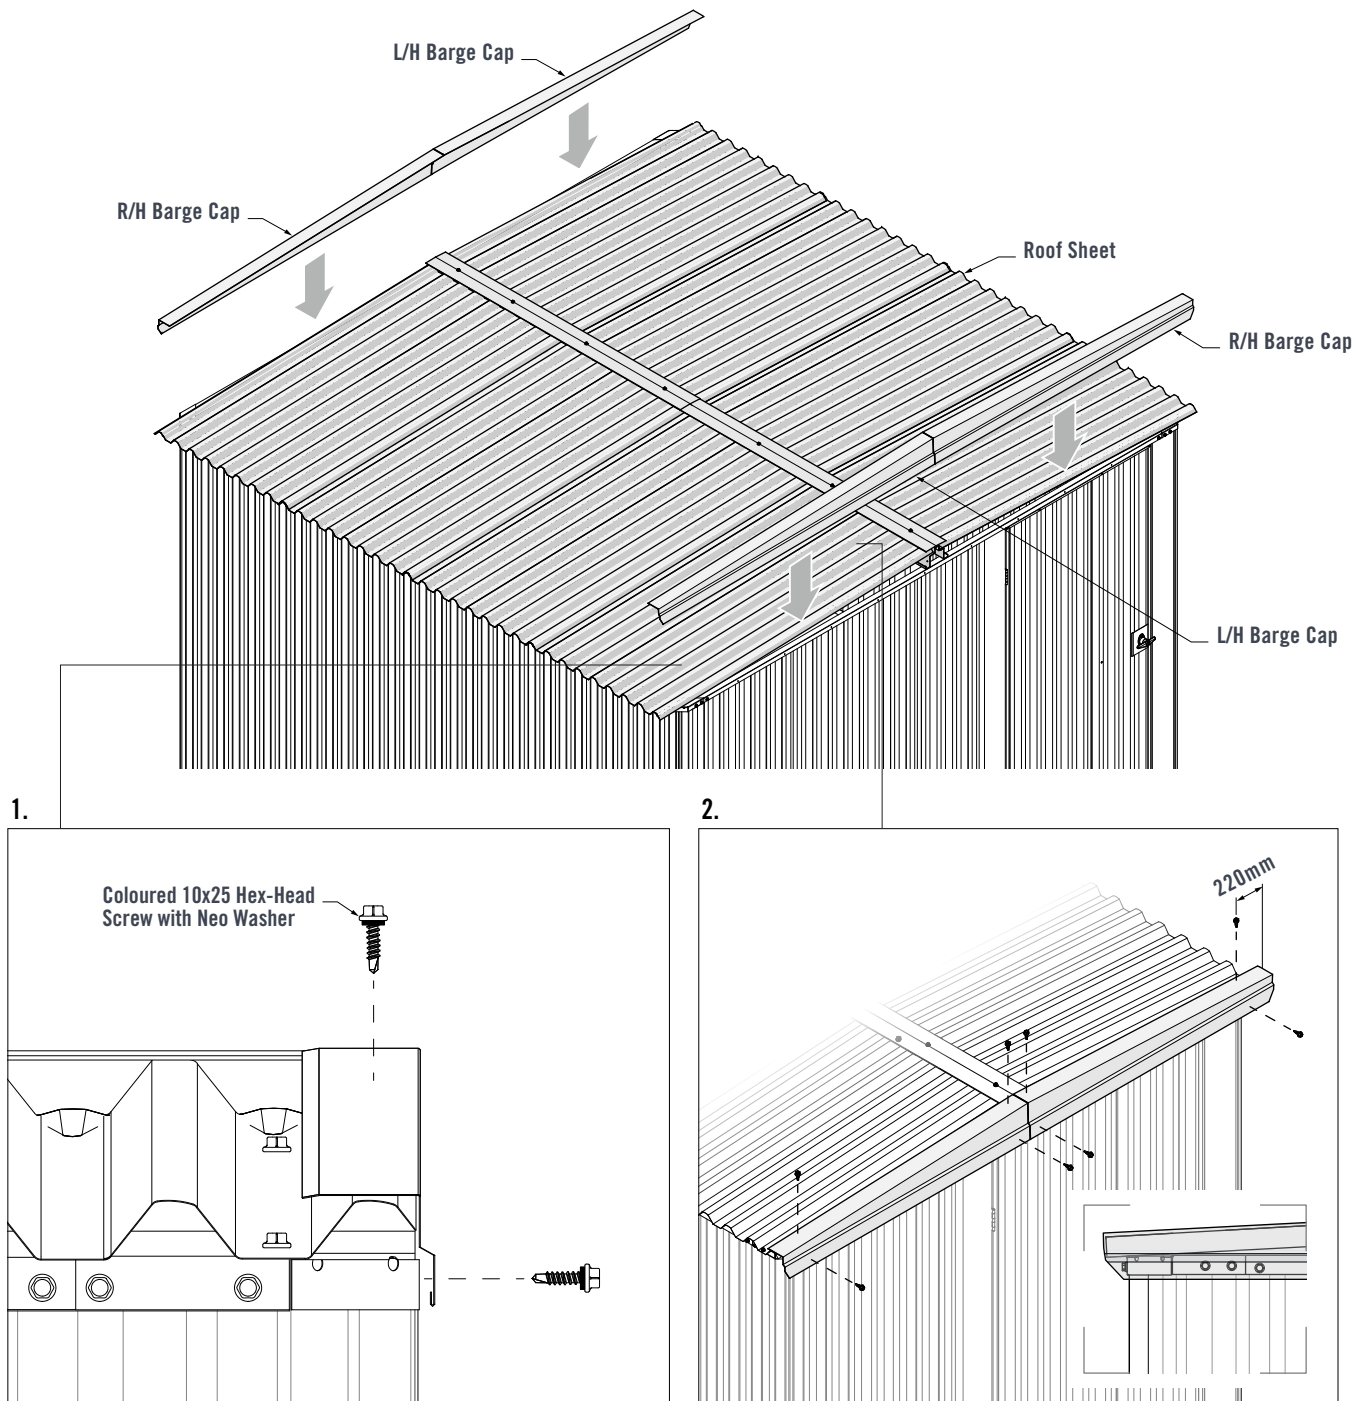

FIGURE 6.8
1. Place the L/H Barge Cap over the Roof Sheet at the front of the shed. The front face of the Barge Cap should fit up against the Roof Sheets (Figure 6.8).
2. The ends of the Barge Cap Should align with the end of the Roof Sheet. Fasten two coloured 10x25 Hex-Head Screws with Neo Washers through the front face of the Barge Cap and into the Wall Channel. Fasten two coloured 10x25 Hex-Head Screws with Neo Washers through the top of the Barge Cap and into the crests of the Roof Sheets (Figure 6.8).
Install the R/H Barge Cap in the same manner on the front right side of the shed. Install the remaining L/H and R/H Barge Caps to the rear of the shed in the same manner (Figure 6.8).